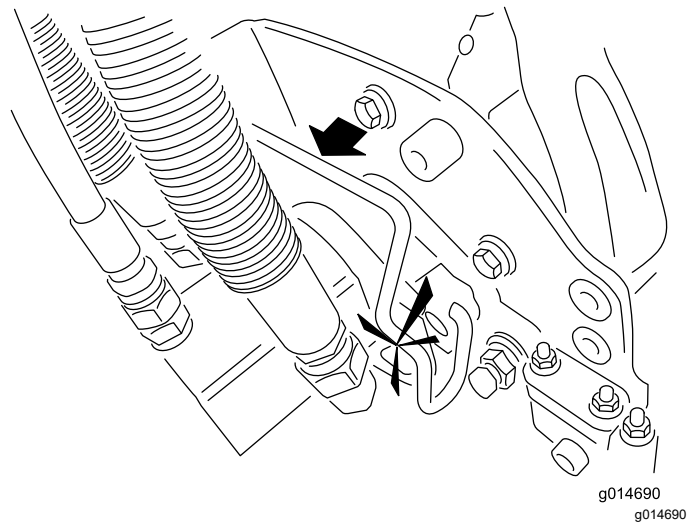

Figure 48
- 5. Coat the spline shaft of the cutting unit motor with clean grease (Figure 48).
- 6. Insert the motor into the left side of the cutting unit (as viewed from the operator's position) and pull the motor retaining bar on the cutting unit toward the motor until you hear a click from both sides of the motor (Figure 48).